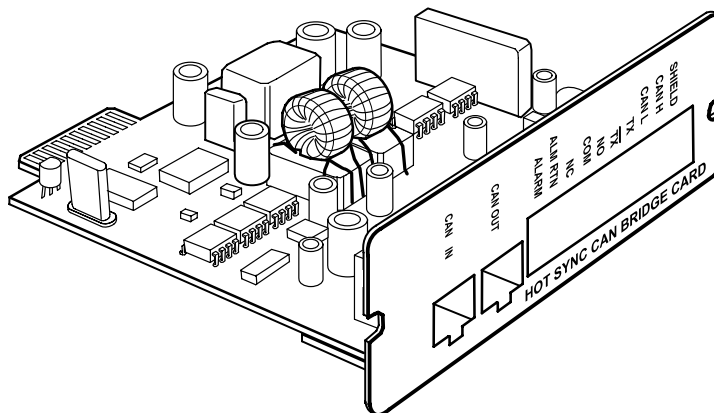

Figure 31. Powerware Hot Sync CAN Bridge Card
3. Verify that all circuit breakers are in the OFF (O) position.
4. Unpack the Powerware Hot Sync CAN Bridge Card and verify that the card was not damaged during shipment (see Figure 31).